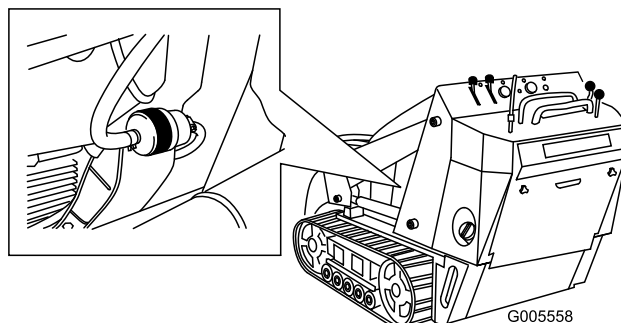

Figure 38
4. Clamp the fuel lines on both sides of the fuel filter (Figure 38).
5. Squeeze the ends of the hose clamps together and slide them away from the filter (Figure 38).